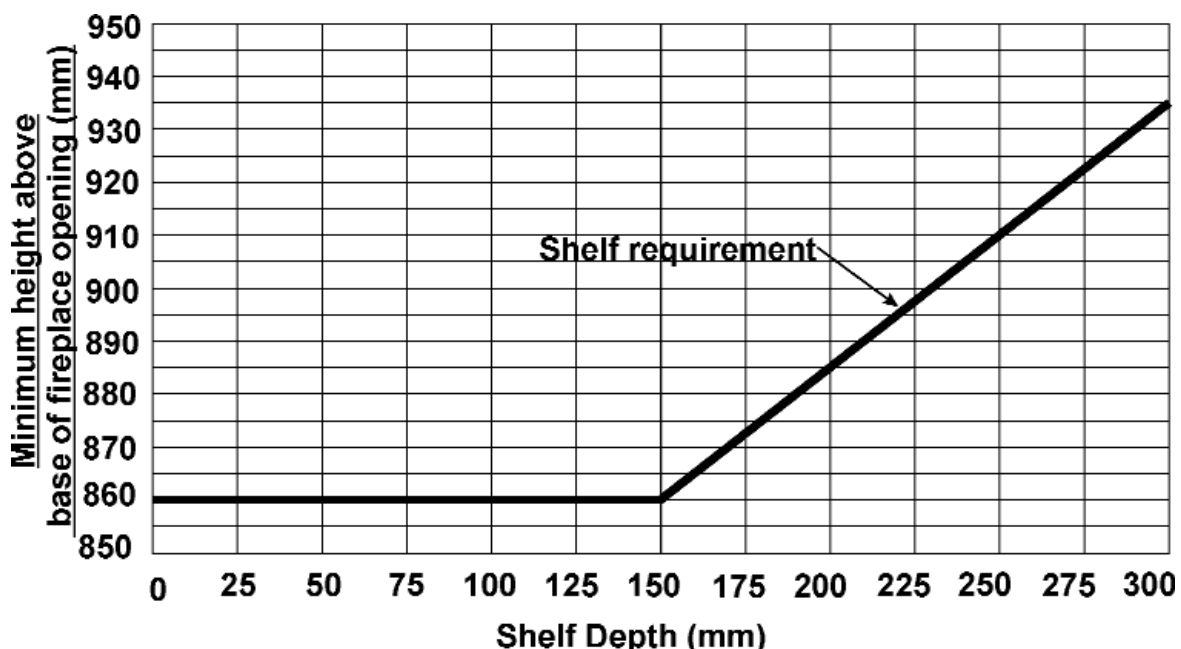

Figure 1. Combustible shelf clearances
**Do** provide a minimum clearance of 860mm from the base of the fireplace opening to any shelf made of wood or other combustible material where the shelf is not more than 150mm deep. For a shelf deeper than 150mm, add 12.5mm to the clearance for every 25mm of additional shelf depth (See figure1).